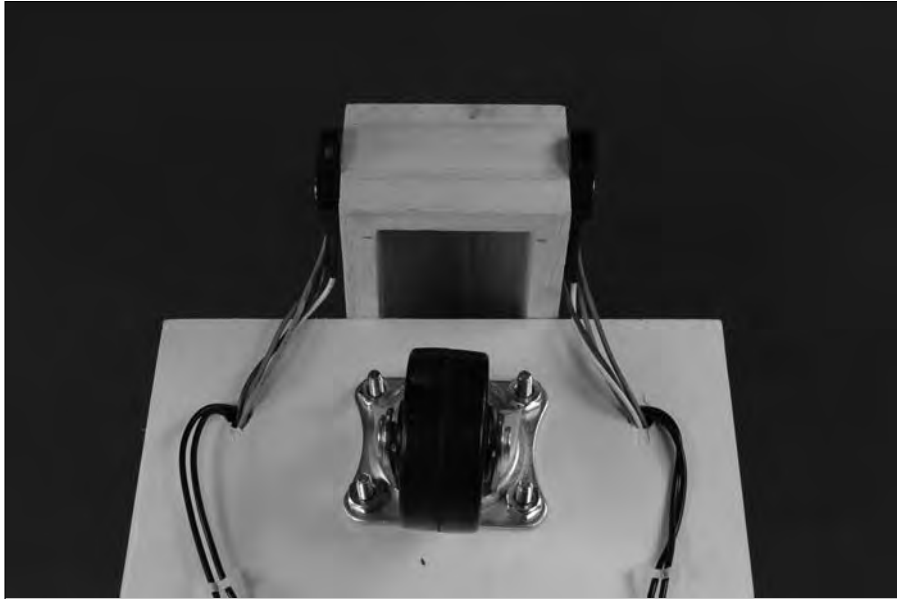

Figure 13-32:
7. Drill a hole for 4-40 screws in each side of the small box to mount the sensors, as shown in Figure 13-32.
10. Glue the small box to the cart, as shown in Figures 13-32 and 13-33.